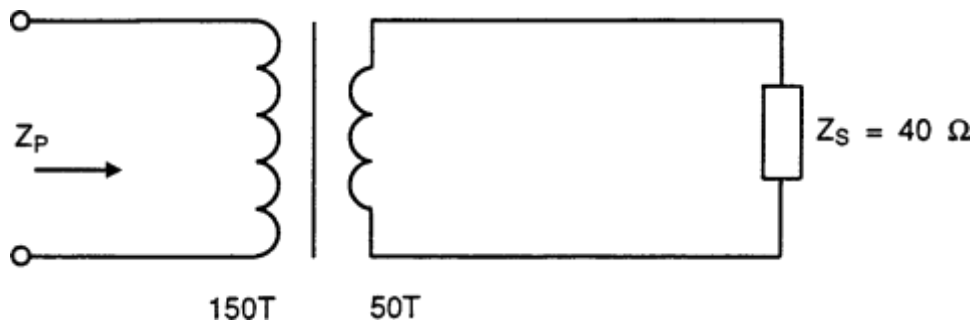

Figure 12
Lets calculate the input impedance of the transformer in Figure 12.
9. Now it is your turn. Calculate the primary impedance of the transformer in Figure 12 if the load is changed to $65 \ \Omega$.